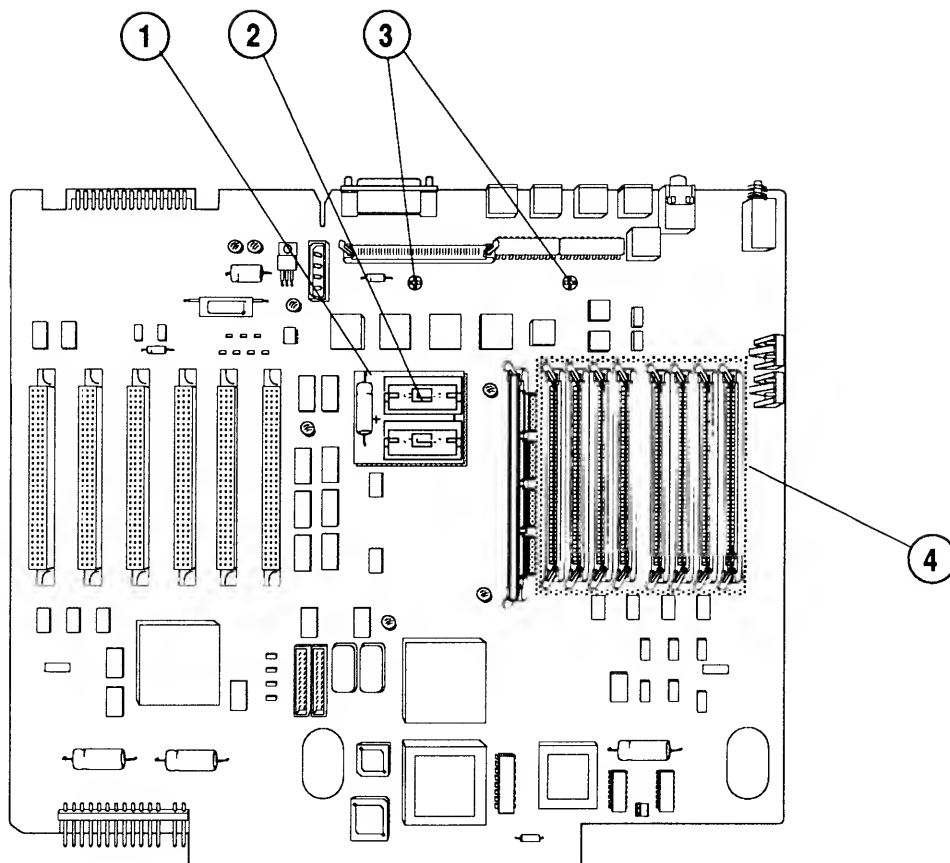

FIGURE 3
- IPL.7 Macintosh Ix – Logic Board (Figure 3)
□ MACINTOSH IIx – LOGIC BOARD (Figure 3)